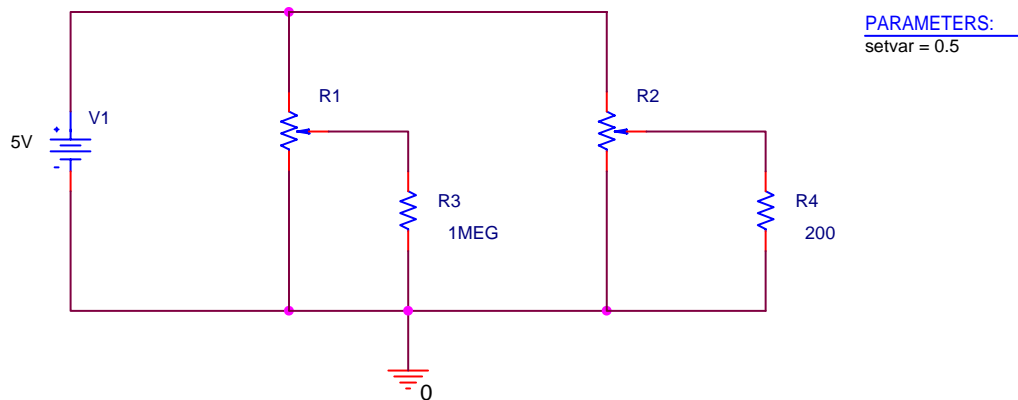

Figure B-7
- Now your circuit should look like the figure below. When you have finished, you will see the parameter and its default value listed under Parameters. (Refer to figure B-7 below.)